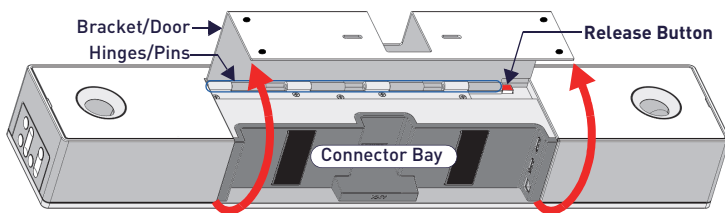

FIG. 2 ACV-2100 BOTTOM VIEW - OPENING THE WALL MOUNT BRACKET
2. Press and hold the **Release Button** to slide the Wall Mount Bracket out (over the button) to disengage the pins on the bracket from the hinges on the unit (FIG. 2).
3. Connect cables as necessary - open the Wall Mount Bracket to access the connector bay (see FIG. 2).